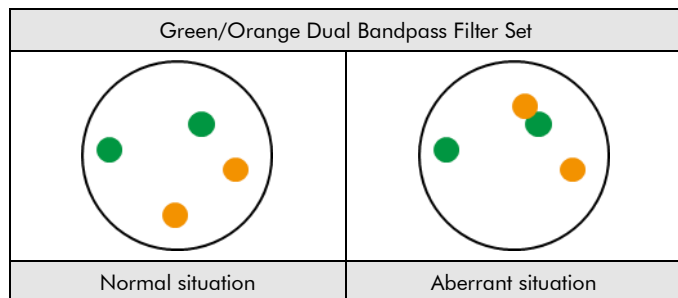

Fig. 2: Expected results in normal and aberrant nuclei
**Normal situation:** In interphases of normal cells or cells without a translocation involving the respective gene regions, two separate green and orange signals appear (see Fig. 2).
**Aberrant situation:** A gene fusion is indicated by one separate orange signal, one separate green signal, and one orange/green fusion signal (see Fig. 2).